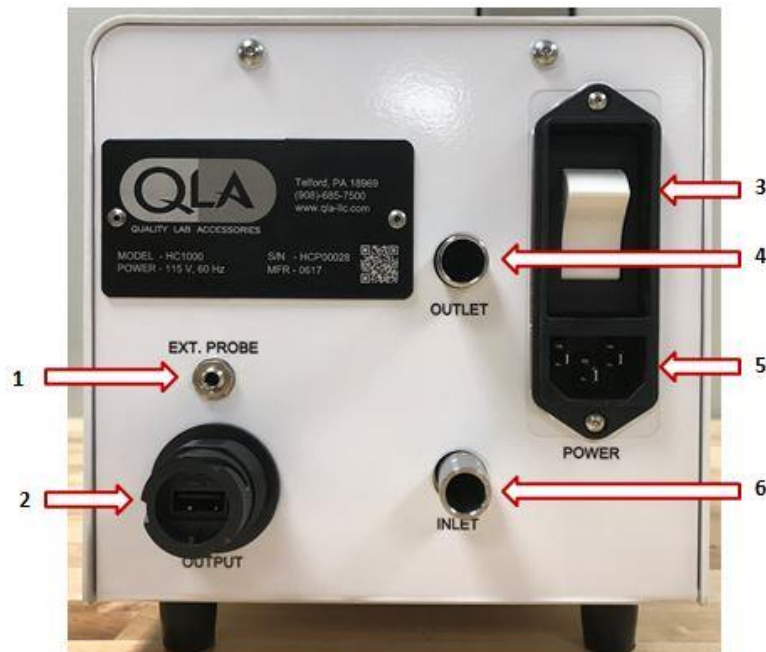

Figure 2
1. Ensure power switch (SEE FIGURE 2 / ITEM 1) on the rear panel is in the OFF position.
2. Connect the power cord to the AC power connector (SEE FIGURE 2 / ITEM 2) on the rear panel of the unit.
4.2 Liquid Connections – Single Bath System (FIGURE 2)